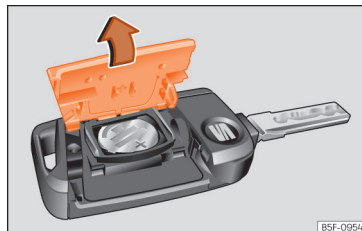

Fig. 88 Vehicle key: opening the battery compartment cover.
- Remove the cover from the back of the vehicle key »» Fig. 88 in the direction of the arrow »» ❶.
- Fit the cover as shown »» Fig. 88, pressing it onto the vehicle key casing in the opposite direction to that shown by the arrow until it clicks into place.